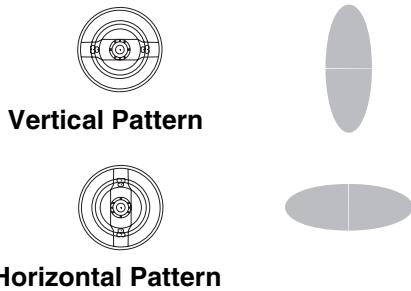

Fig. 11. Air Cap Positions
2. Loosen the air cap retaining ring, and rotate the air cap for a vertical or horizontal spray pattern. See FIGURE 11. Tighten the retaining ring until the air cap is held firmly in place; you should not be able to rotate the air cap horns by hand.